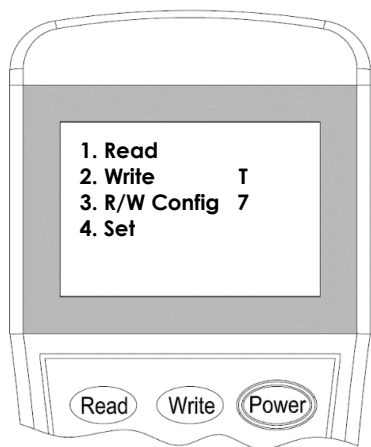

Figure 14
3. Switch-on the programmer, then press button **“3”** to enter to Configuration mode (Figure 14).